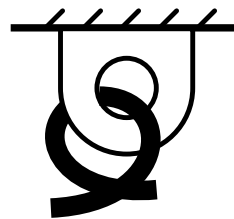

Fig. 79 – Tie-Down Point Identifier
- c. Securely strap the machine at the tie-down points (Fig. 79) to the platform. Use only belts or chains of sufficient capacity.